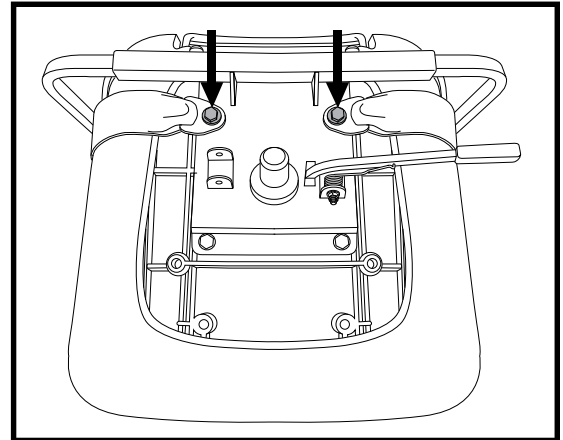

Figure 15. Positioning Belt Bolts
The seat rotation lever, located on the right side of the seat base, secures the seat into several positions. See figure 15
Your vehicle seat may be equipped with an auto-type positioning belt that can be adjusted for operator comfort. See figure 15. The positioning belt is designed to help support the operator so that he or she does not slide down or forward in the seat. The positioning belt is not designed for use as a restraining device.
2. Place the seat upside down so that you can see the bottom of the seat base. See figure 15.